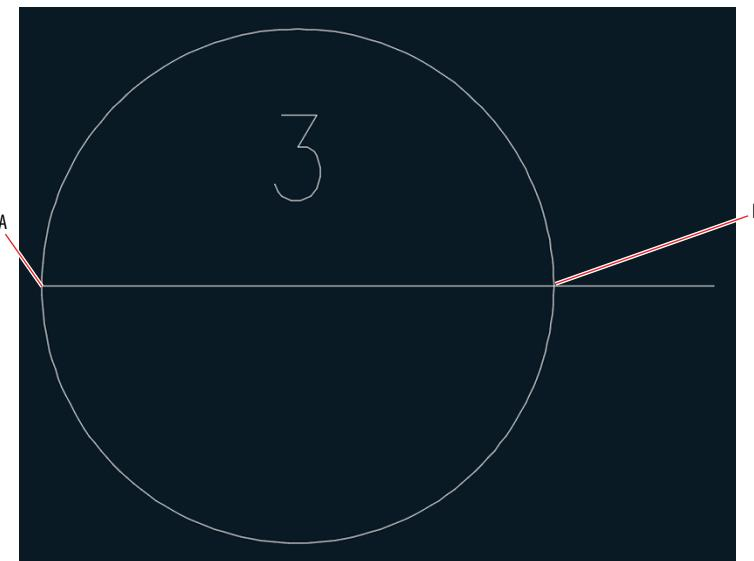

FIGURE 10.6 Mirroring text to create a duplicate text object
- Click the Mirror tool on the Modify panel, select the text object (3), and press Enter. Click the endpoint at point A and the center point at B in Figure 10.6 to define the mirror. The command line reads as follows: